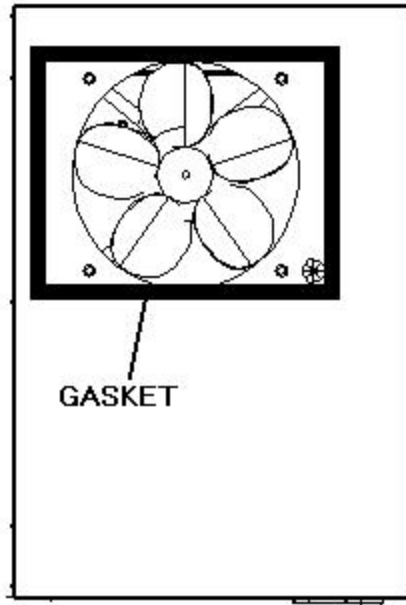

Fig. 2.9 TOP EXHAUST GASKET
7. If top exhaust, place another gaskets along the top exhaust at the top of the cooling unit (see Fig.2.9).